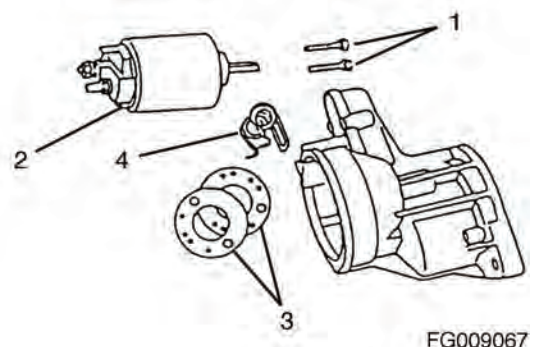

Figure 345
7. Remove the two M6 bolts (1, Figure 345) retaining the magnetic switch assembly (2, Figure 345) to the gear housing. Remove the magnetic switch assembly, dust cover(s) (3, Figure 345) and torsion spring (4, Figure 345) from the gear housing.